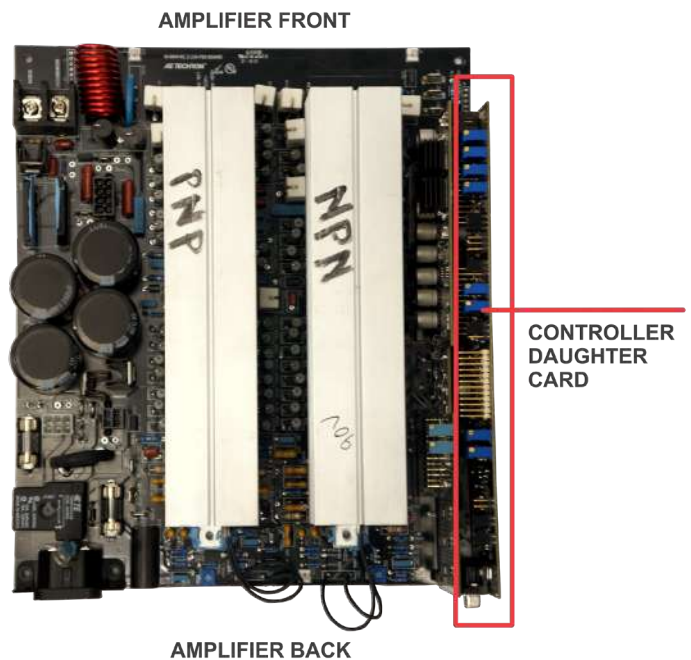

Figure 5.2 – 7114 Controller Board Location
1. Locate the 7100 Controller card as shown in **Figure 5.2**.